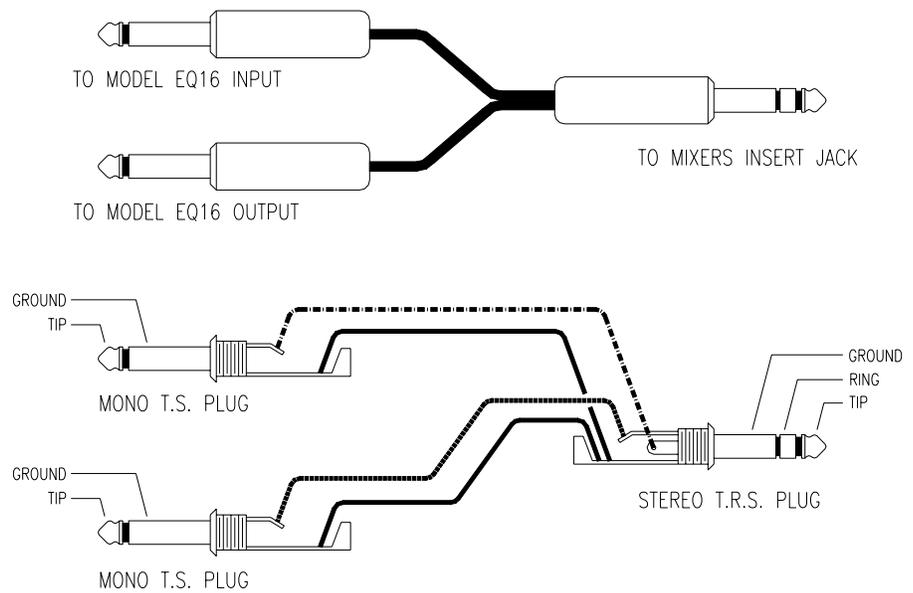

Figure 5. "Y" Cable schematic
A few of the larger recording consoles that lack a patchbay may use two jacks for the channel's insert points; one jack for insert output, and another for the insert input. Most of the smaller rack mount mixers mentioned in this manual utilize a stereo (TRS) jack for the insert points. For these mixers it will be necessary to utilize a special "Y" cable with a stereo plug at one end and two mono plugs at the other ends. (See figure 5)
Typically, this input is used to connect the output of a source signal. This output source could be synths, samplers, tape outputs, or any line level output signal. This jack could also be used in conjunction with the output jack (see item 9) and a "Y" type cable to connect to a mixer's channel insert jack (See "Y" Cable in Figure 5).
Typically, this output will be used to connect to the input of another line level audio device. This device could be the line inputs or effect returns of a mixer, the inputs of a tape recorder, the inputs of a sampler or any line level input. This jack could also be used in conjunction with the input jack (see item 8) and a "Y" type cable to connect to a mixer's insert jack (See "Y" Cable in Figure 5).